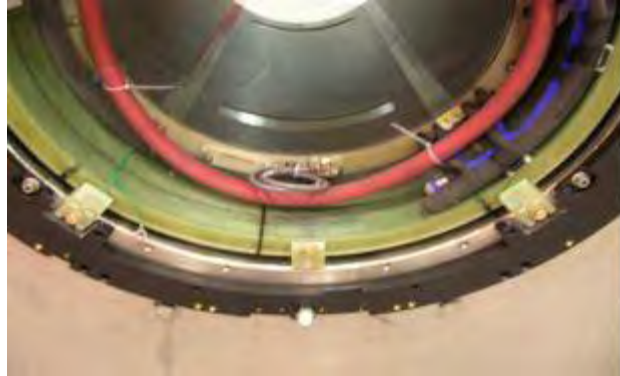

Figure 56 – Positioning of the Lower Wedges
- V. Slowly lower Support Plate bearing and Tube Jack. The full weight of the XRMB is now loaded onto the six lower wedges. Take care not to rotate the coil. Once on the support blocks use an outward wedge to check the alignment (when bolted to the I/F ring, the wedge lines up with the pocket) **(Fig 56)**